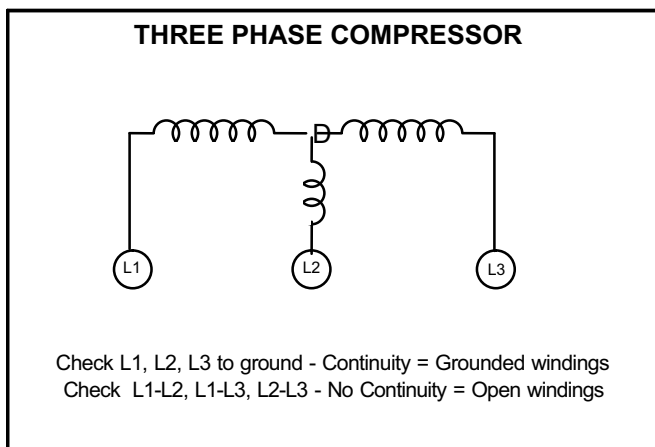

FIGURE 1
- 4- Check for open or shorted compressor motor windings and/or open motor protector contact. Shut off main disconnect. Remove power wiring from compressor terminals. Using an ohmmeter set on 10K ohm scale, check compressor motor windings as illustrated in figure 1.